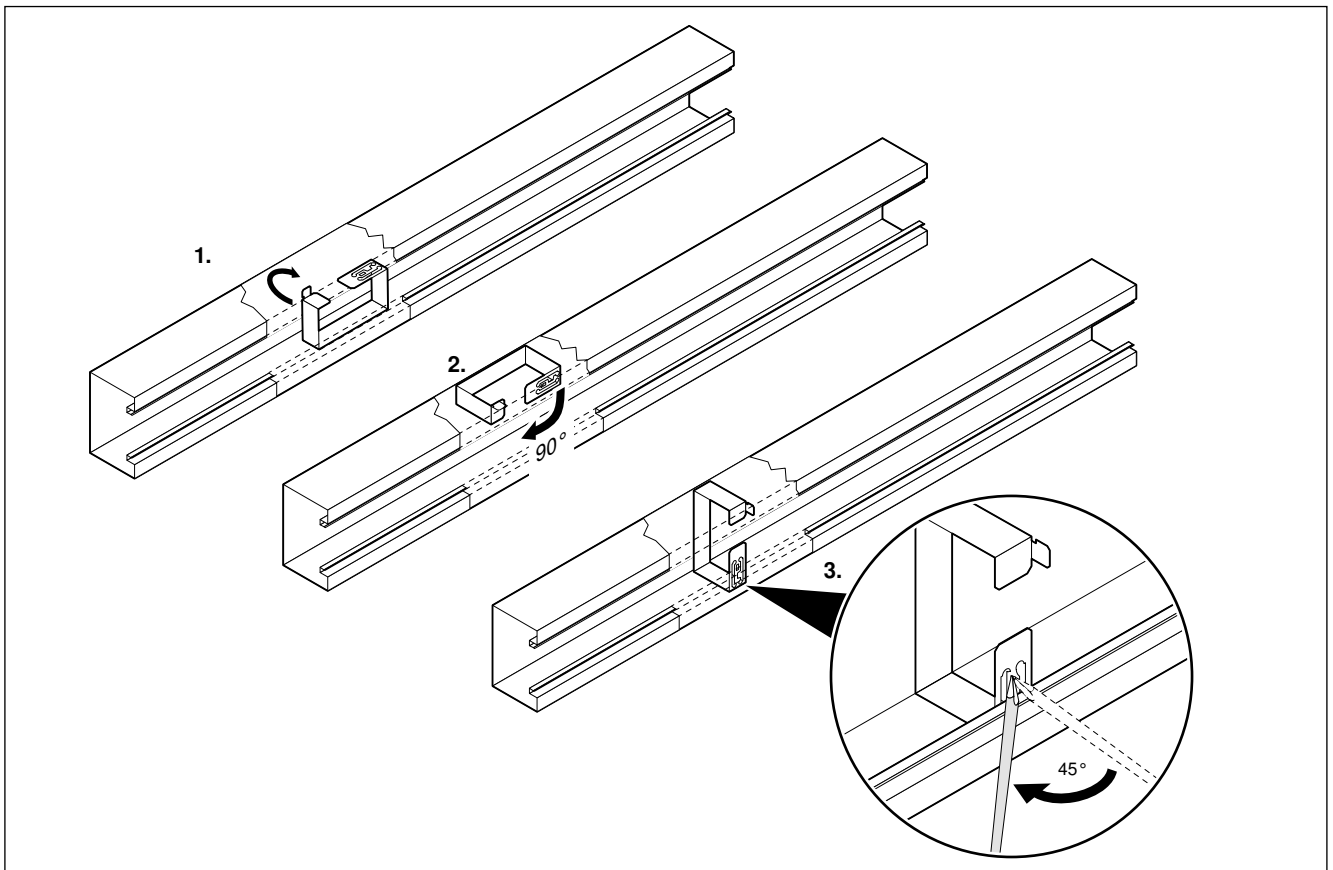

Fig. 25: Turning in and fixing cable clamps for wall mounting
- Insert the cable clamps as shown in Fig. 25 (1.) and turn them upwards.